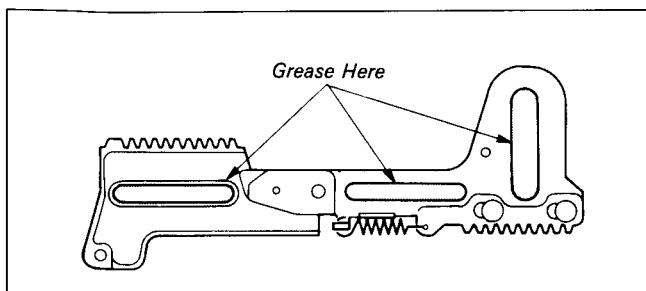
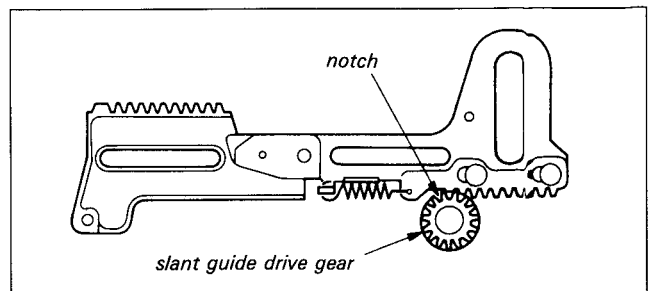

Fig. 7-31.
Fig. 7-32.
**Note:** At this time, confirm the engagement position of the slant guide drive gear and L slider assembly gear. (See Fig. 7-32.)
- 1) Lubricate the portions indicated in Fig. 7-31.
- 2) Mount the tension regulator load arm assembly ② and the stopper washer ⑥.
- 3) Mount the L slider assembly ⑤ while pushing the RL arm assembly protrusion ④ in the direction of arrow.
- 4) Put the tension regulator load arm assembly ② pin into the M slider groove. (Refer to 7-3-15. M slider)
- 5) Mount the two stopper washers ③.
- 6) Refer to 3-4, 2. Mounting, 2), and place the tension regulator load arm assembly ② pin in the tension regulator arm assembly cam groove.
- 8) Engage the slant guide drive gear so that the notch is 1 tooth away from the L slider assembly left side tooth. (See Fig. 7-32.)
- 9) Mount the entrance guide (P) assembly according to 7-3-10., 2. Mounting.